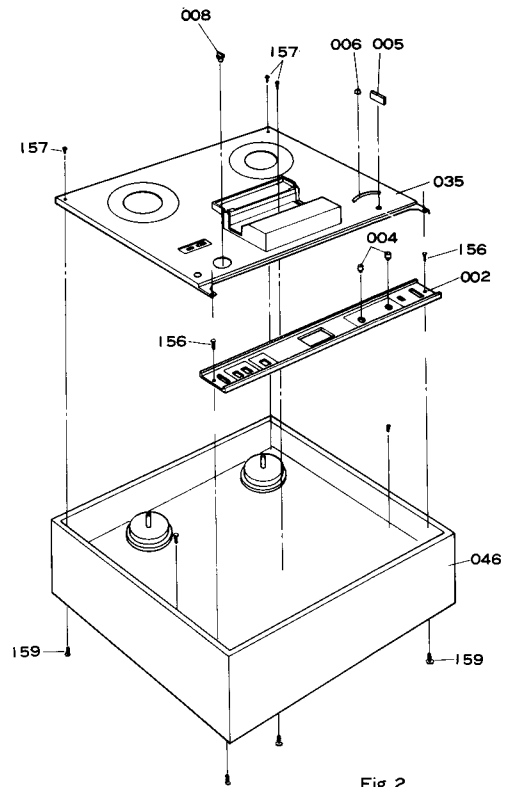

Fig. 2
■ CABINET REMOVAL (Refer to Fig. 2)
- (1) Remove two record level control knobs (004), function selector knob (005), fast forward knob (006) and tape speed selector knob (008) from the set.
- (2) Remove three front panel retaining screws (157) and two control panel retaining screws (156). Then front panel (035) and control panel (002) can be removed from cabinet (046).
- (3) Remove four cabinet retaining screws (159) at rear of the set and two chassis retaining screws at front.
- (4) Then cabinet (046) and main chassis (069) can be disassembled.